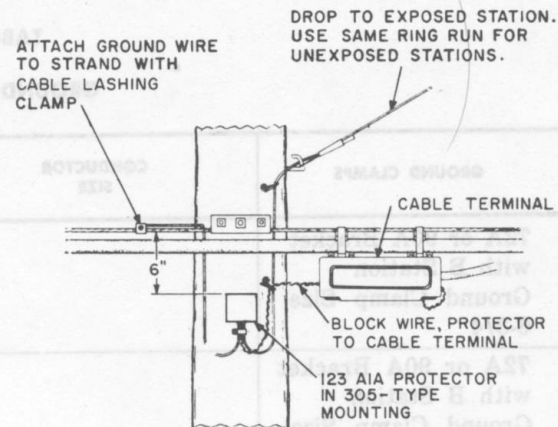

Fig. 45—N-Type Terminal, Strand Installation
11.07 Cable protection is required at terminals in exposed cables where the drop wire is exposed. Typical wall and pole installations using protectors for cable protection with terminals is shown in Fig. 41 through Fig. 45.